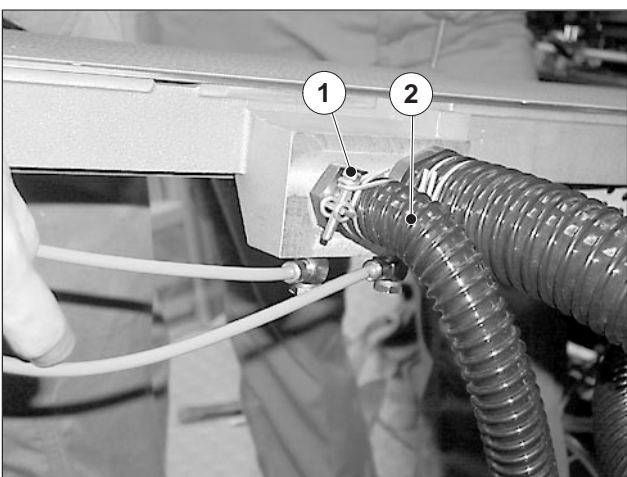

Fig. 85
10. Remove both suction air hoses from the suction tape. Loosen the screw (Fig. 85/1) at the clamp strap and pull the hose (Fig. 85/2) off the hose nozzle.